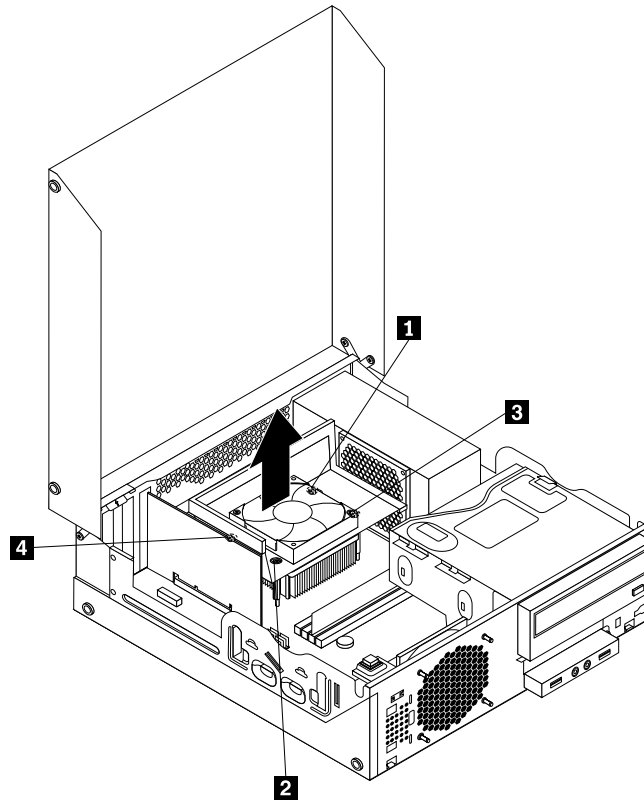

Figure 33. Screws that secure the heat sink and fan assembly
8. Follow this sequence to install the four screws to secure the new heat sink and fan assembly, as shown in Figure 33 “Screws that secure the heat sink and fan assembly” on page 51: